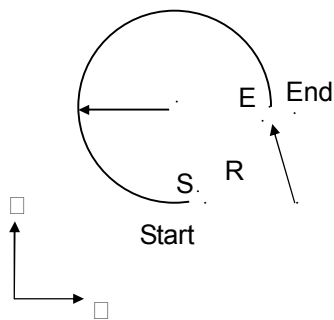

Fig. 3-10 Arc cutting
2. There are two different arc types available for arc cutting (Fig. 3-10)
**Ex** In Fig. 3-10, an arc is cut with an angle  $\leq 180^\circ$  (R)